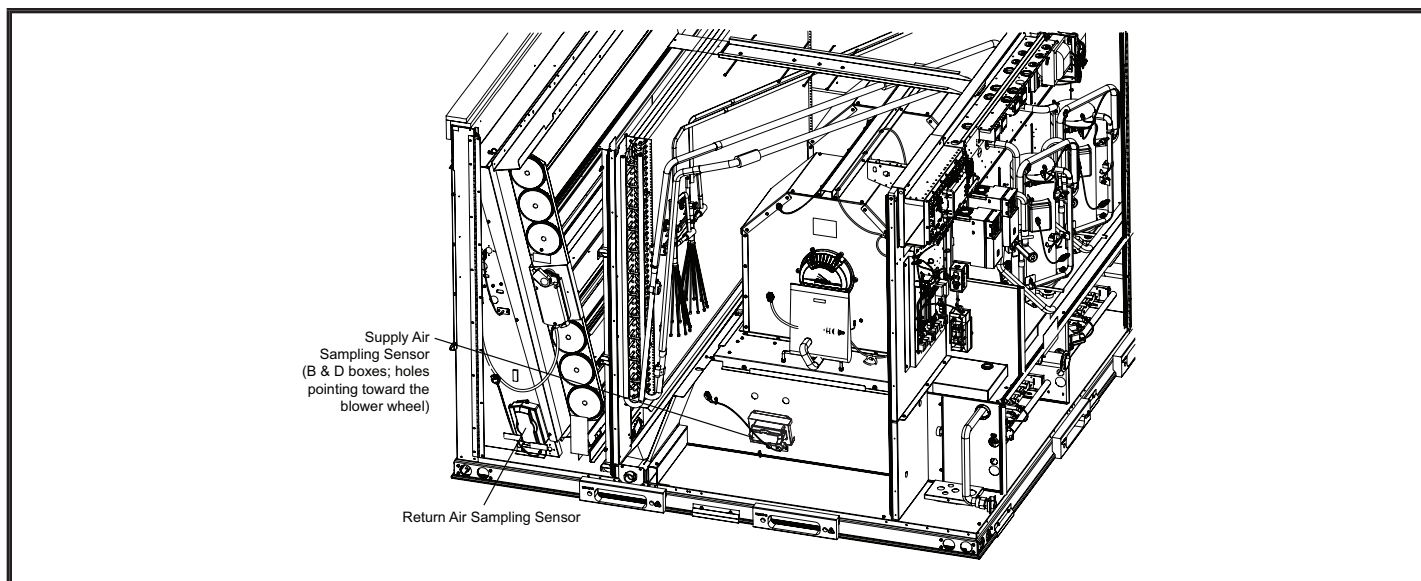

FIGURE 1 Smoke Detector Sensor Locations
- 4 - Secure sensor heads in proper location with #10-16 screws provided (see FIGURE 1).